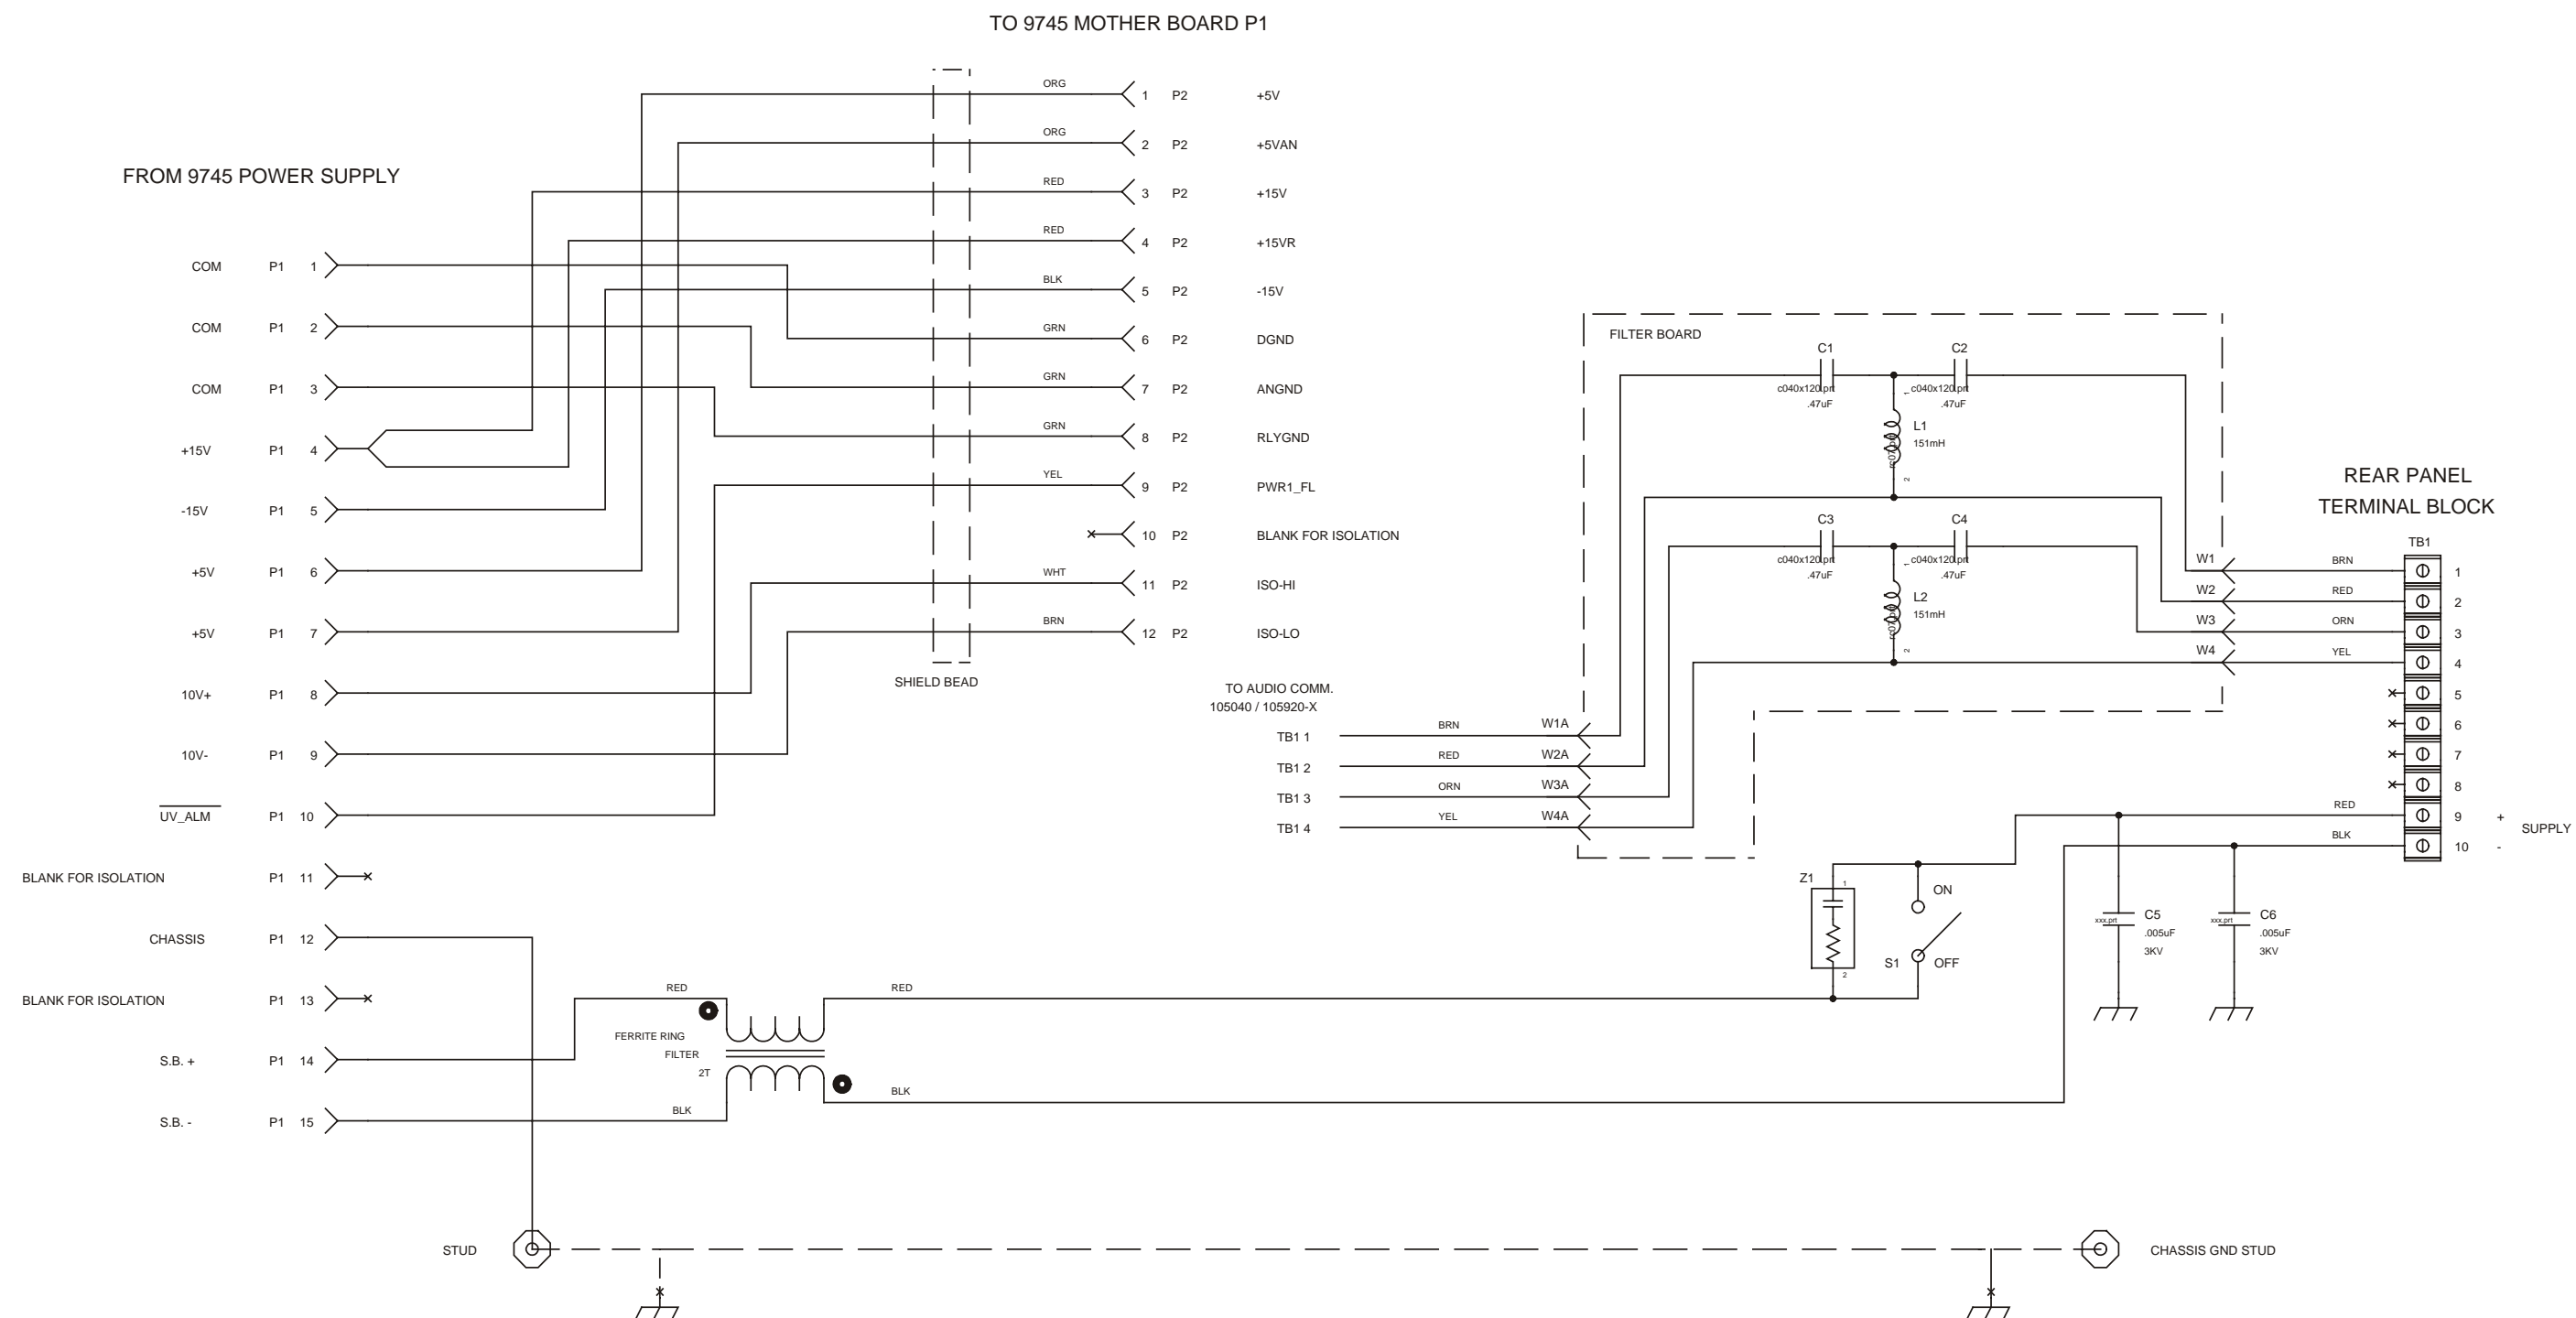

Figure 13-3. Schematic Diagram, 9745 Power I/O, Dual Filter Module (Drawing No. D-105154-2-D)
3. Figure 13-3. Schematic Diagram, 9745 Power I/O, Dual Filter Module (Drawing No. D-105154-2-D)